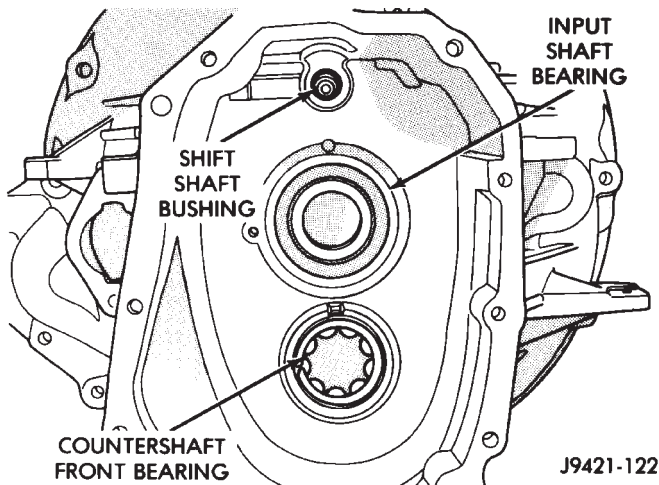
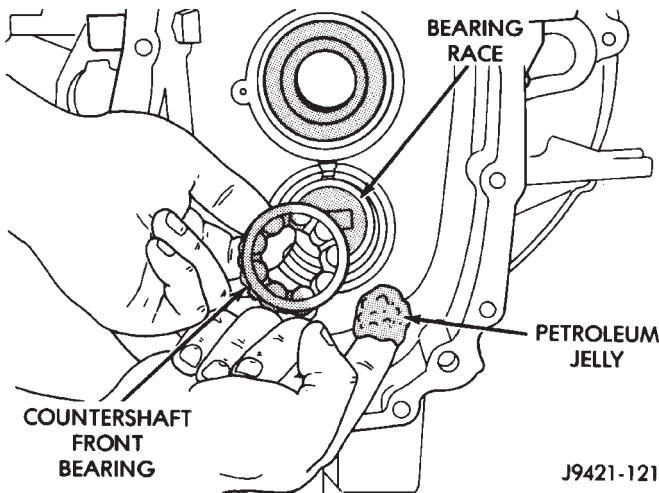

Fig. 118 Input Shaft Bearing And Countershaft Front Bearing Installation
Fig. 119 Lubricating/Positioning Countershaft Front Bearing
(1) Install input shaft bearing in front housing bore (Fig. 118). Use plastic mallet to seat bearing. Bearing goes in from front side of housing only.
(2) Apply liberal quantity of petroleum jelly to countershaft front bearing. Then insert bearing in front housing race (Fig. 119). Large diameter side of bearing cage goes toward countershaft (Fig. 118). Small diameter side goes toward bearing race in housing.
(3) Reach into countershaft front bearing with finger, and push each bearing roller outward against race. Then apply extra petroleum jelly to hold rollers in place. This avoids having rollers becoming displaced during housing installation. This will result in misalignment between bearing and countershaft bearing hub.